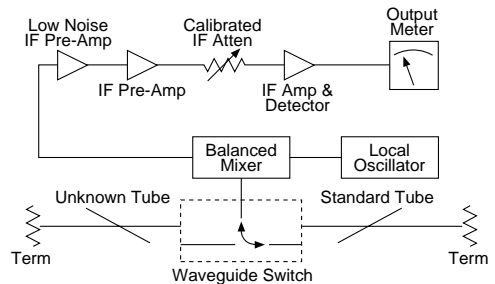

Figure 6. Schematic diagram of set-up for measuring ENR.
**Comparative noise measurements** — Comparative noise measurements are made by Clare in a test system shown schematically in Figure 6. Since these measurements depend ultimately on the stability of the gain set (which can be checked by visual observation of the output meter over a period of time long compared with the measurement time), the tolerances to which Clare ENR specifications are written are at least five times greater than the system capability.